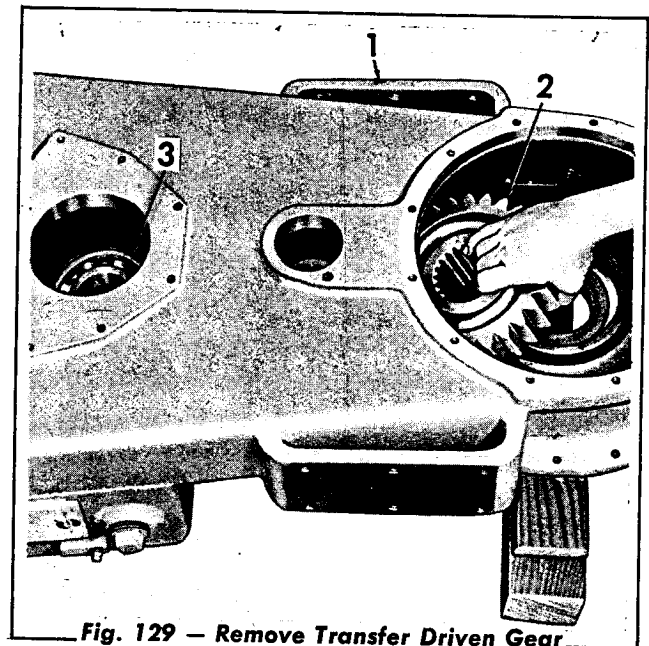

Fig. 129 — Remove Transfer Driven Gear
12. Position the transfer gear housing (Fig. 129)